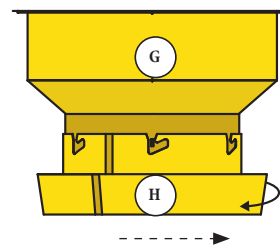

FIG. 12c
- Raise the Cassette Holder (H) up until the tabs are engaged [FIG. 12c].